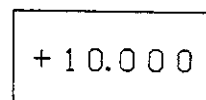

Fig. 28
3. Press RECALL. 10V will be set, output enabled. As shown in Fig. 28, address 1 will be displayed for 0.5 sec, then the display will read +10.000.